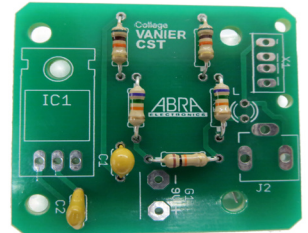

Fig. 5
5. Install C2 (0.1uf) with 104 code as per fig 5. Trim leads with diagonal cutter.